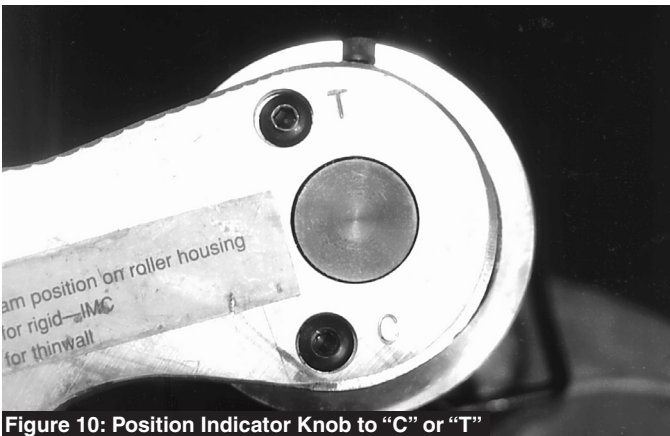

Figure 10: Position Indicator Knob to "C" or "T"
3. The top plate and roller assembly is installed over the shoe. Prior to installation, move the indicator knob to the "C" position for rigid or IMC conduit; the "T" position for EMT (thinwall). Figure 10.